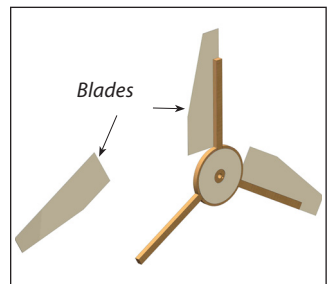

Figure 3
6. Glue each blade to the face of each Part 6. Make sure the printed side of the blades is facing down and the straight side is aligned with the edge of the Part 6s (Figure 3). Let dry.